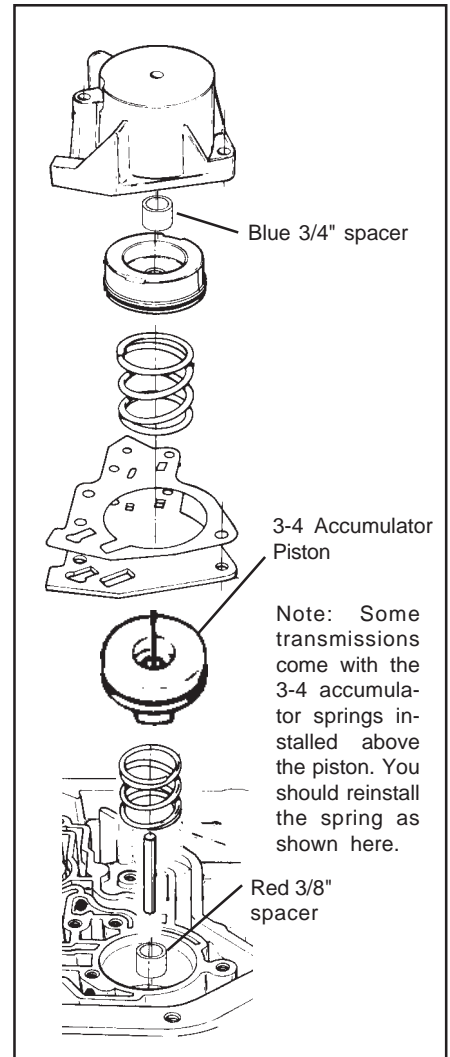

Fig. 10. Street Level Accumulator Assembly Order.
STEP 12. Street Level Only; Insert the 3-4 accumulator pin in the case. Over the pin place the **Red** (3/8") spacer, spring and accumulator piston. Use a dab of grease or petroleum jelly to hold components in place (See Fig. 10.)
STEP 15. Street Level Only; Remove the spring and piston from the 1-2 accumulator housing (**See Fig. 10.**) and install the **Blue** (3/4") spacer over the guide pin. Install piston and spring into 1-2 accumulator housing in reverse order of removal. With the spacer installed it will be necessary to compress the accumulator spring when installing the accumulator assembly. To help keep the separator plate and gaskets aligned thread 5 or 6 bolts into the case at various positions. Place gasket on accumulator housing then hold the 1-2 accumulator assembly up to the case. As an assembly aid use two of the long valve body bolts as guides while com-